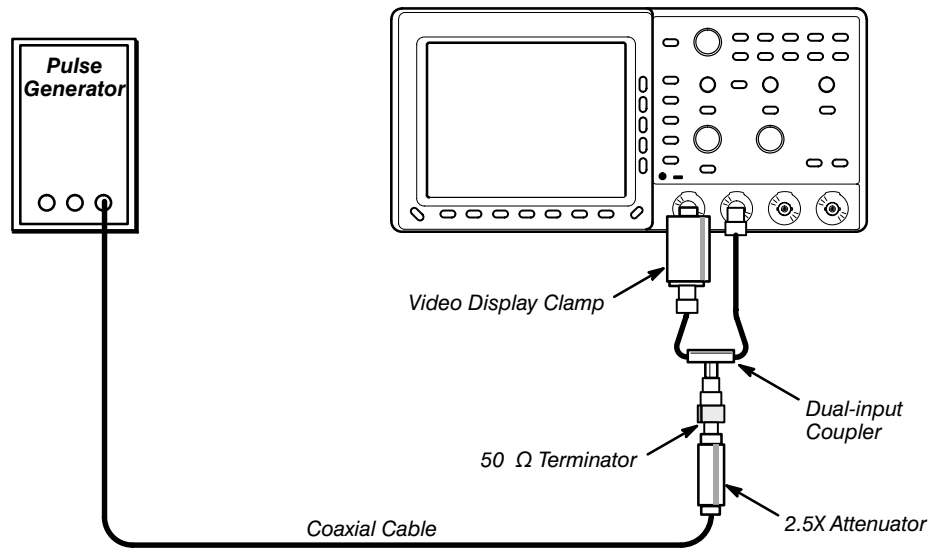

Figure 11: Crosstalk Test Setup
2. Connect the output of the pulse generator to the test oscilloscope as shown in Figure 11.